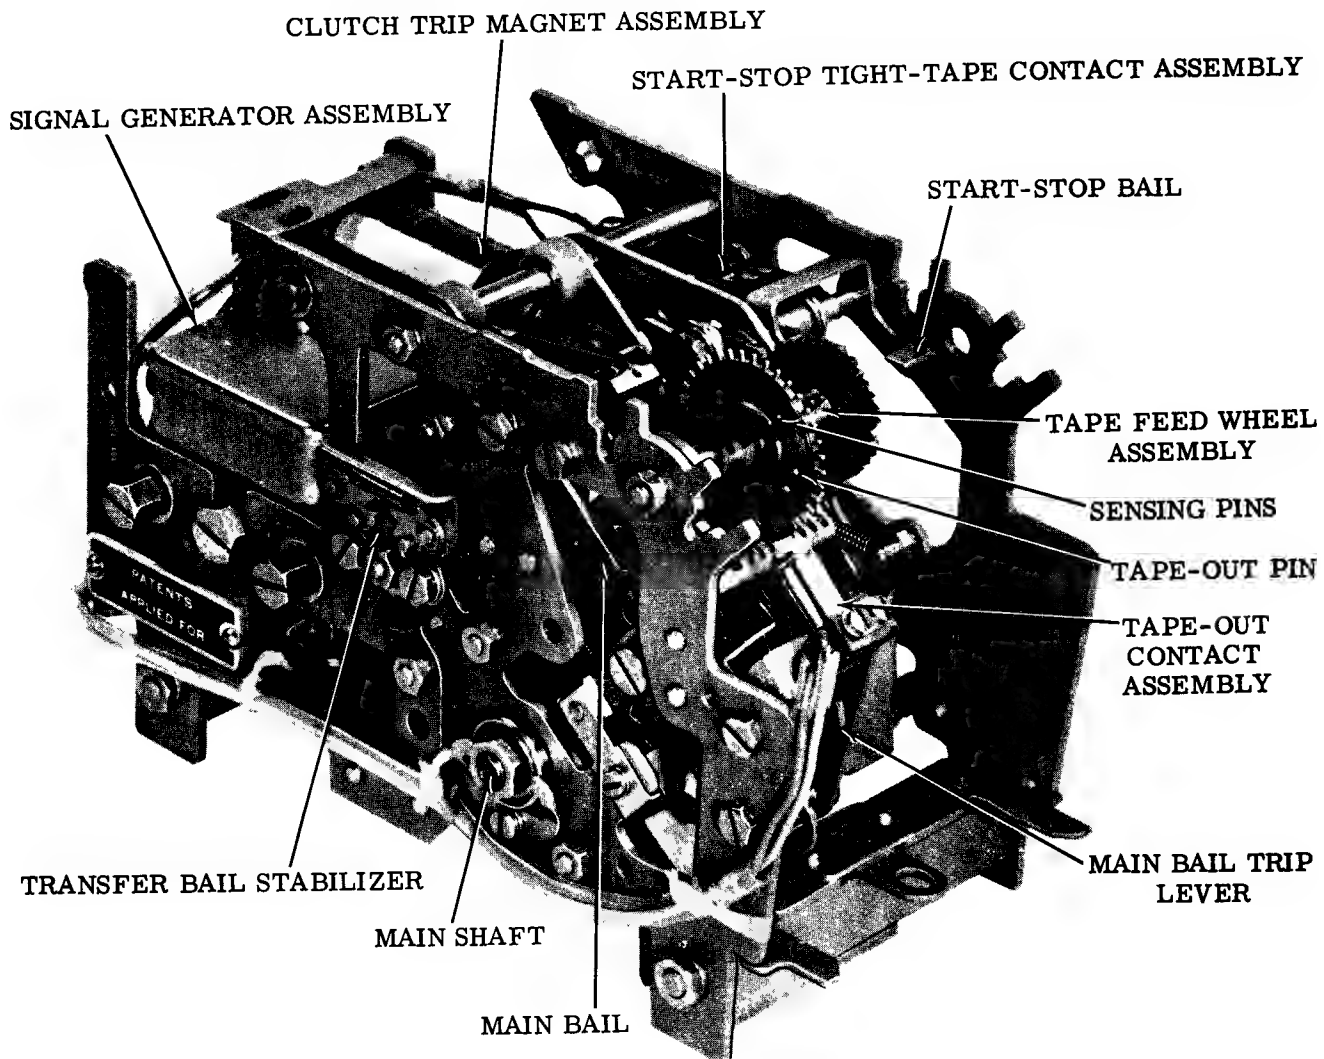

Figure 2 - Transmitter Distributor Unit (Cover Plate, Top Plate and Tape Guideplate Removed)
2.01 The basic operation of the transmitter distributor is to mechanically sense perforated tape and transfer the information to the signal generator, which performs the actual signal transmission (Figure 2).
(a) The tape sensing mechanism which consists of a bank of sensing pins, (5 or 6 depending on the code level) each with its corresponding transfer lever and latch lever (Figures 2 and 3).
(b) The main shaft assembly, (Figures 2 and 3) which is centrally located in the lower portion of the unit, has the outer race of each
(d) A tape-out pin (Figure 2), located to the right of the sensing pins, stops transmission if there is no tape in the sensing head (Figure 5).